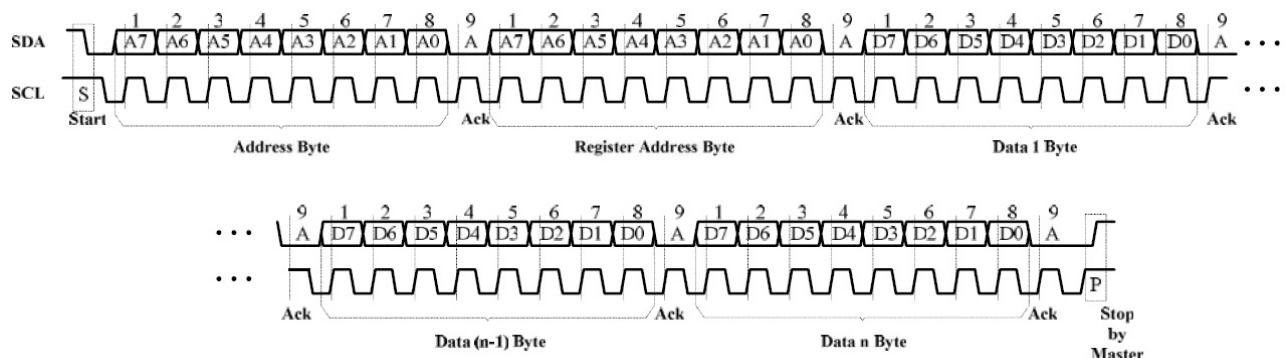

Figure 5 Writing to BCT3024(Automatic address increment)
To write multiple bytes of data into BCT3024, load the address of the data register that the first data byte is intended for. During the BCT3024 acknowledge of receiving the data byte, the internal address pointer will increment by one. The next data byte sent to BCT3024 will be placed in the new address, and so on. The auto increment of the address will continue as long as data continues to be written to BCT3024 (Figure 5)
- 2) In a Automatic address increment Writing way (see Figure 5), OUT4 address and data can't be neglect, We recommend writing data 0x00.